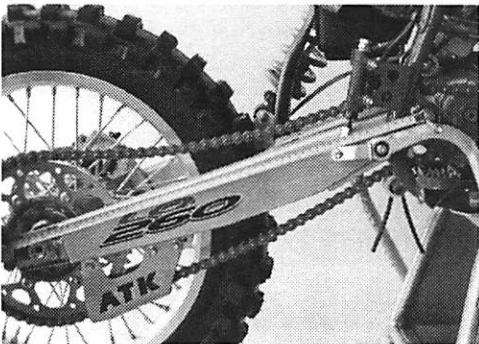

Figure 4.8
4. The best method for checking the rear wheel alignment is to measure the distance from the center of the swingarm pivot to the center of the axle using a tape measure. The rear wheel is aligned when the distance from the swingarm pivot to the rear axle is identical on both sides of the motorcycle. Fine tune the alignment of the rear wheel by turning the adjuster screws. (Figure 4.8)